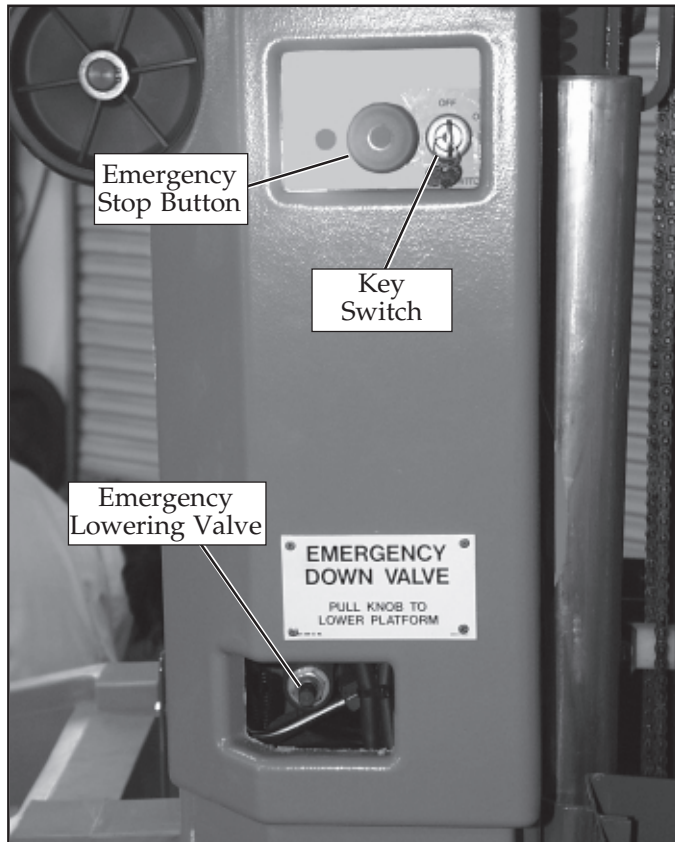

Figure 4: Base Controls
2. Turn Key to **ON**, Key Switch is located on the left side of the mast (Figure 4).
Ask a person on the ground to open the Emergency Lowering Valve to lower the platform. This valve is located through a cutout in the power unit cover on the left side of the mast (Figure 4).